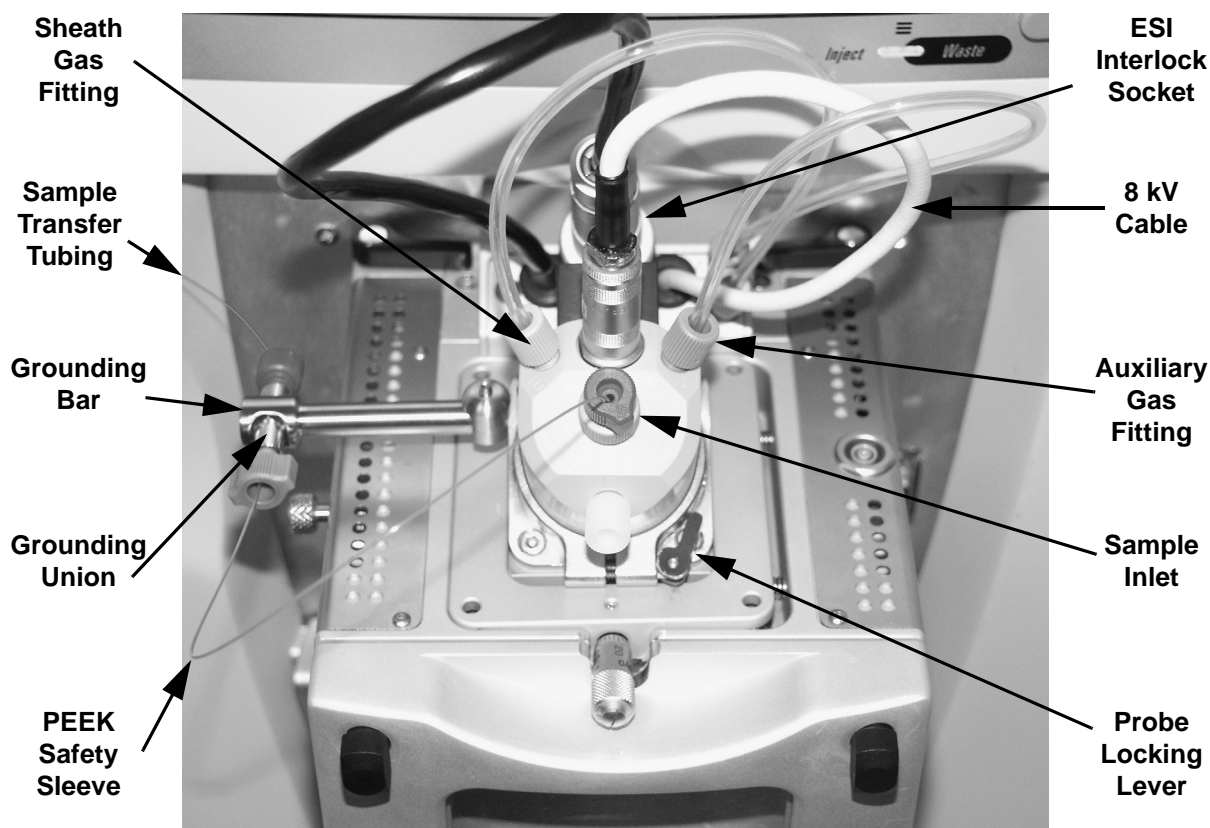

Figure 6-1. Ion Max ion source housing with ESI probe installed
2. Disconnect the sample transfer tubing from the stainless steel ZDV fitting (grounding union). See Figure 6-1.
3. Remove the 8 kV cable from the ESI needle high voltage receptacle as follows: (See Figure 6-1.)
4. Disconnect the Auxiliary Gas fitting (green) from the auxiliary gas inlet (A) on the probe manifold. (Figure 6-1.)
5. Disconnect the Sheath Gas fitting (blue) from the sheath gas inlet (S) on the probe manifold.